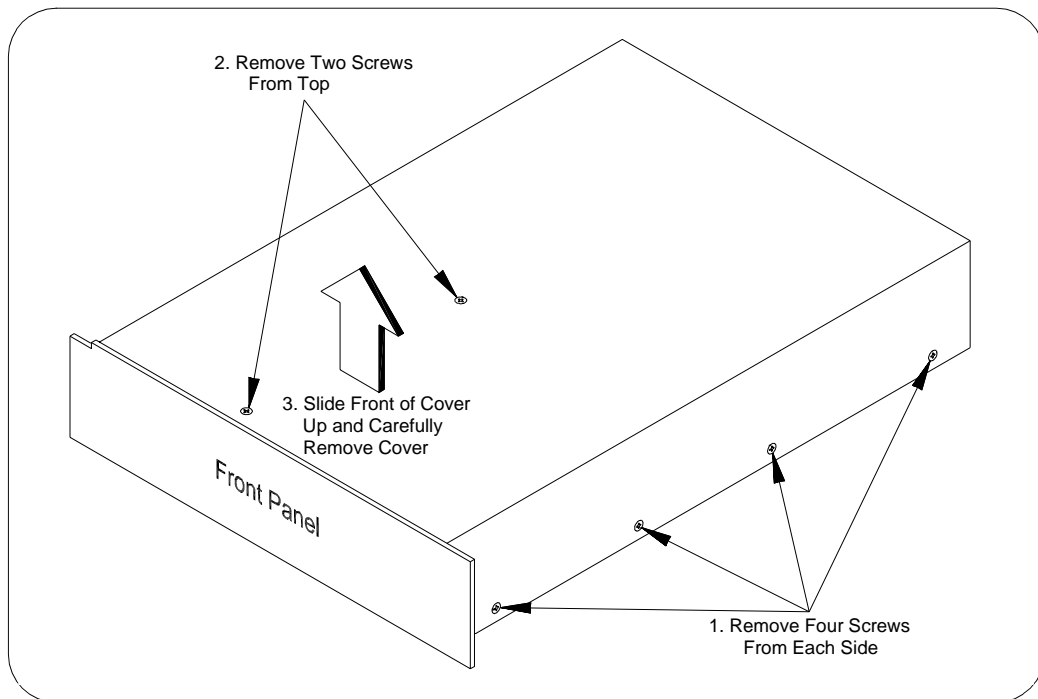

Figure 6-2. Removing the E9850A Cover
To add additional RAM, change switch/jumper settings, replace the hard drive, or install I/O expansion card panels, you will first need to remove the E9850A cover as shown in Figure 6-2.
1. Turn mainframe power OFF, remove the E9850A and remove the E9850A cover (see Figure 6-2).
1. Turn mainframe power OFF and remove the E9850A from the mainframe. Then, remove the E9850A cover (see Figure 6-2).